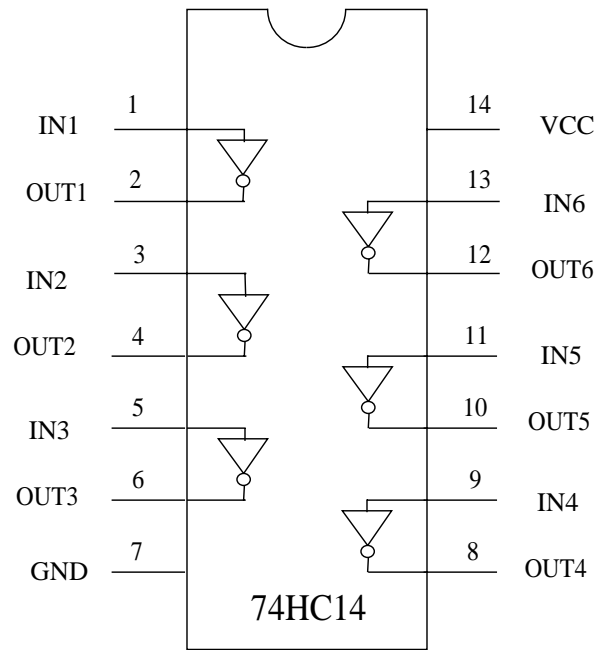

Figure 2: pin assignments for the 74HC14 inverter chip.
- (4-2) Following your design from Pre-Lab Exercise 4-1, construct the clock using the 74HC14 inverter chip obtained earlier. Figure 2 shows the pin assignments for the inverter chip. Use any two of the inverters in the chip, and leave the others unconnected. Do not yet connect the clock output  $v_{\text{CLK}}$  to the clock input of the counter. Rather, use one channel of the oscilloscope to observe the oscillator output  $v_{\text{OSC}}$ , and trigger the oscilloscope from that channel. Use the other channel to observe  $v_{\text{CAP}}$  and the clock output  $v_{\text{CLK}}$ . Compare what you observe with the oscilloscope to the graph prepared during Pre-Lab Exercise 4-2 to determine whether or not the clock is functioning properly. In particular, the clock output  $v_{\text{CLK}}$  should remain between 0 V and 5 V so as not to damage the counter which it drives. Finally, if the frequency of the clock is not 8 kHz, adjust the values of  $R$  or  $C$  so that the frequency is 8 kHz.